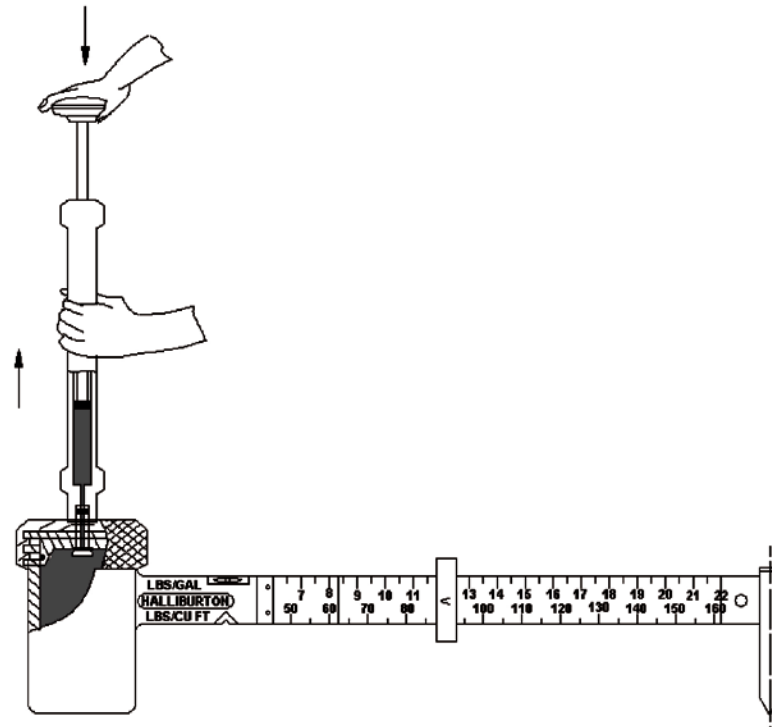

Figure 4-5 Removing the plunger
4. While maintaining the same force on the plunger, decrease the force on the cylinder by lessening your grip. This process allows the check valve to move upward slightly (Figure 4-5).